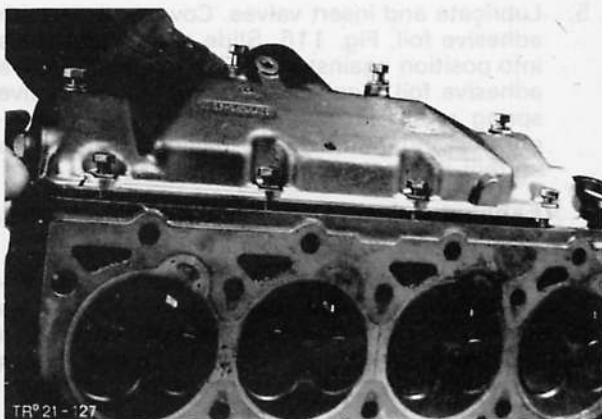

Fig. 113. Remove inlet manifold
1. Remove inlet and exhaust manifolds from cylinder head (8 bolts each) Fig. 113.